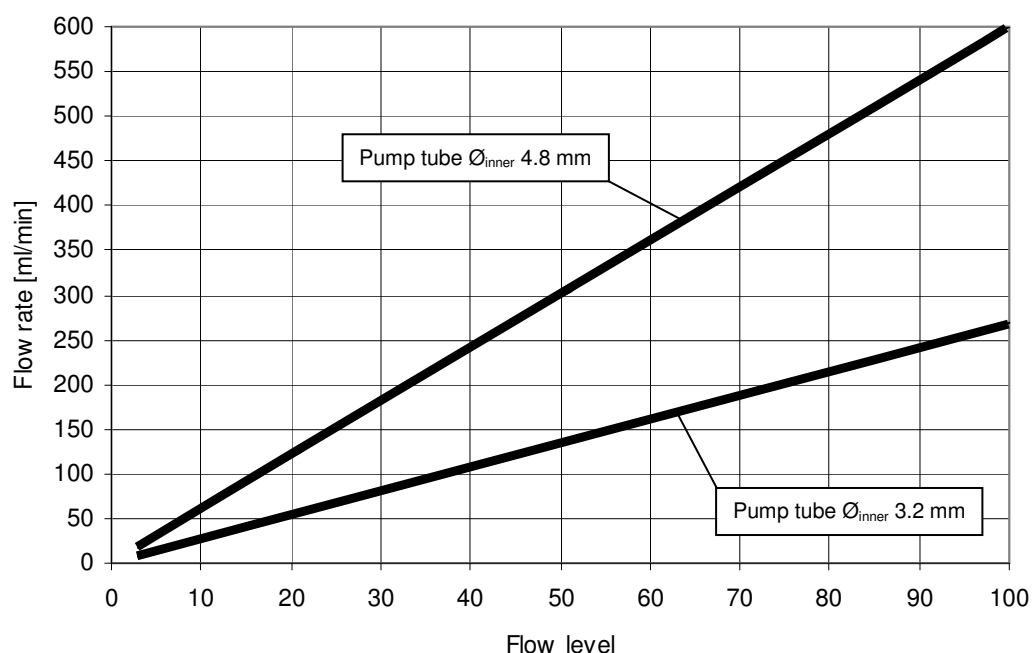

Fig. 11.1: Flow level and the corresponding flow rates for pump tubes with inner diameter of 4.8 mm and 3.2 mm
Select a flow level in accordance with the type of procedure and instruments to be used. Refer to fig. 11.1, chapter 11.1 (Pump tube characteristics) for the flow rate of different pump tubes.
The flow level is indicated on the *level display (14)* as a relative flow rate. The effective flow rate (milliliter / minute) depends on the pump tube specification (e.g. inner tube diameter). Refer to fig. 11.1, chapter 11.1 (Pump tube characteristics) for a detailed overview of the flow level, corresponding flow rate and the used pump tube.